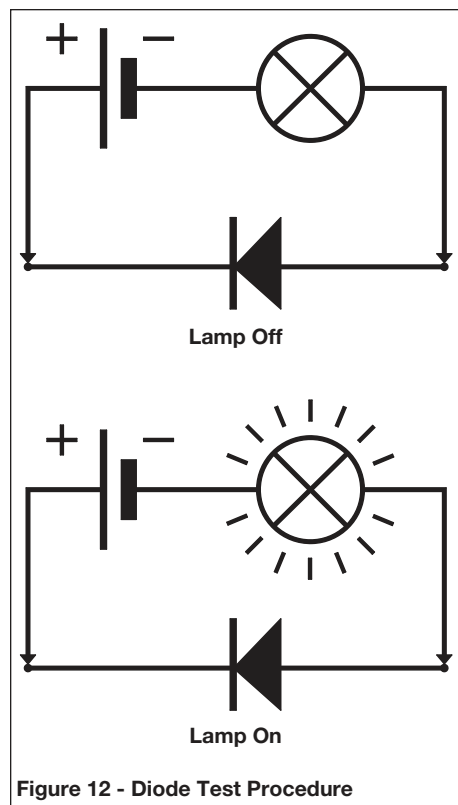

Figure 12 - Diode Test Procedure
2. This check can also be done using a 12 Volt battery and a light bulb as shown in Figure 12.